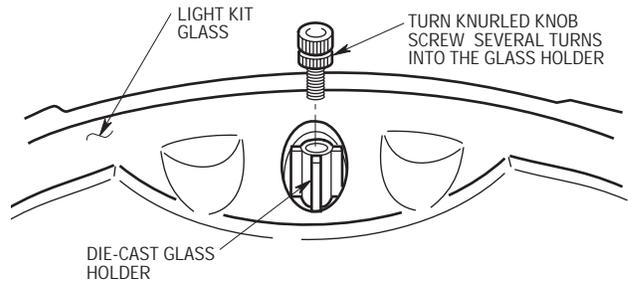

Figure 20
- 10. Carefully turn the light kit glass assembly over. Thread two knurled knob screws (supplied) several turns onto the die cast glass holders (Figure 20). Leave approximately 3/16" of the stud threads revealed.